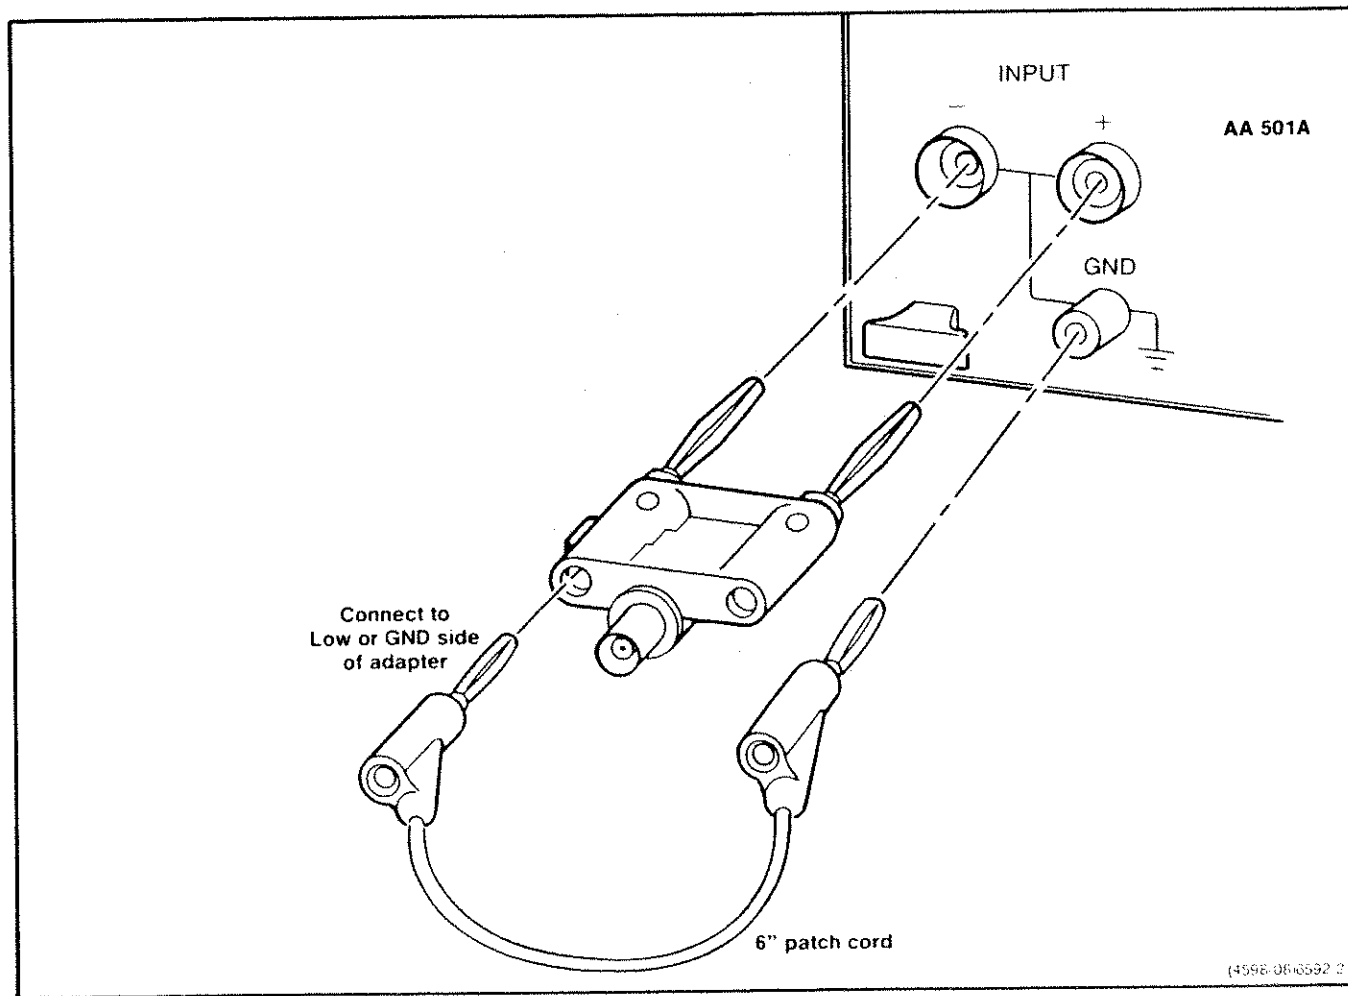

Fig. 4-1. AA 501A grounded unbalanced input connection.
a. Connect the ac voltage calibrator to the input terminals of the AA 501A. Also connect a patch cord from the low or grounded side of the banana plug adapter to the ground terminal of the AA 501A so that it grounds out the — Input. Refer to Fig. 4-1.
a. Connect an ac calibrator to the AA 501A INPUT. Also connect a patch cord from the low side of the banana plug adapter to the ground terminal referring to Fig. 4-1 (same setup as in step 1).
a. Connect an ac calibrator to the AA 501A as shown in step 3 (referring to Fig. 4-1).